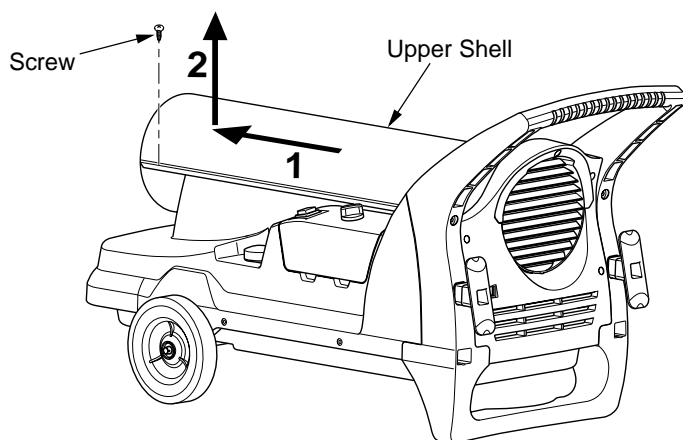

Figure 5 - Upper Shell Removal
1. Remove screws along each side of heater using phillips screw-driver. These screws attach upper and lower shells together. See Figure 5.
1. Remove upper shell (see Figure 5).